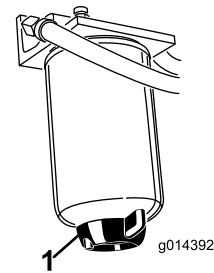

Figure 47
Drain the water or other contaminants from the water separator (Figure 47) daily. Replace the filter canister after every 400 hours of operation.
2. Loosen the drain plug on the bottom of the filter canister (Figure 47).